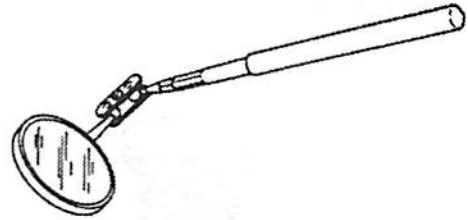

FIGURE 11
•You will need an inspection mirror (fig. 11) small enough to inspect all around a joint even in tight places.